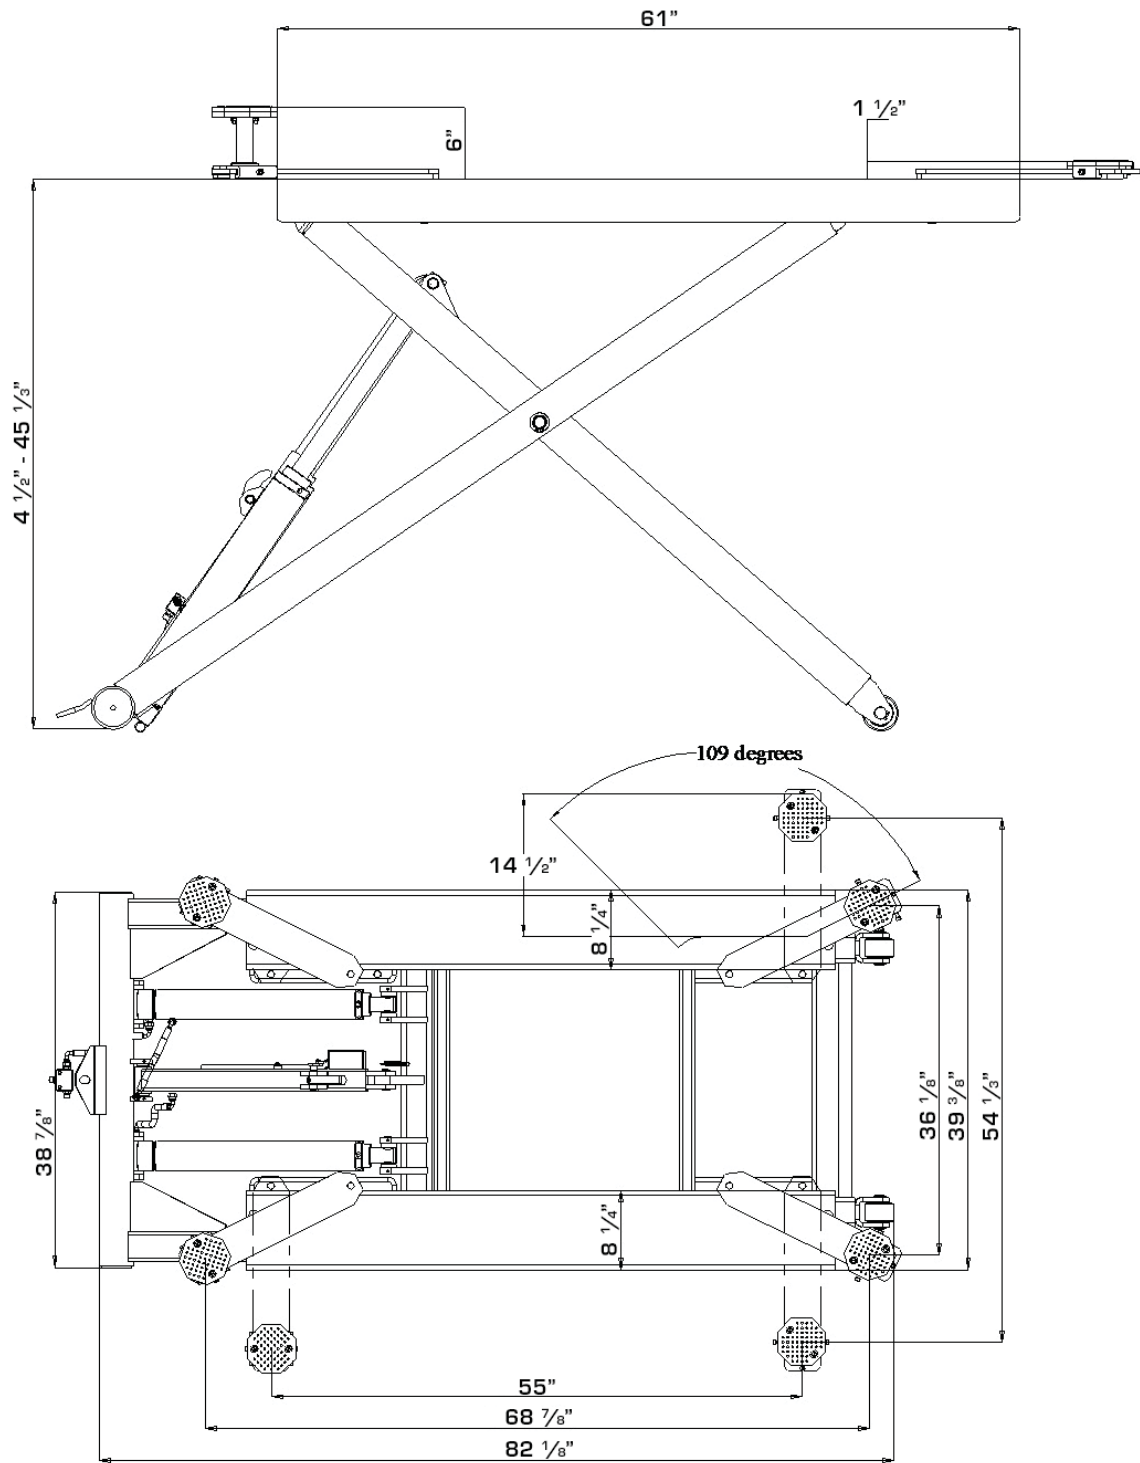

Figure 2 - Layout
5.1 Size And Main Features (Ref. Figure 2)